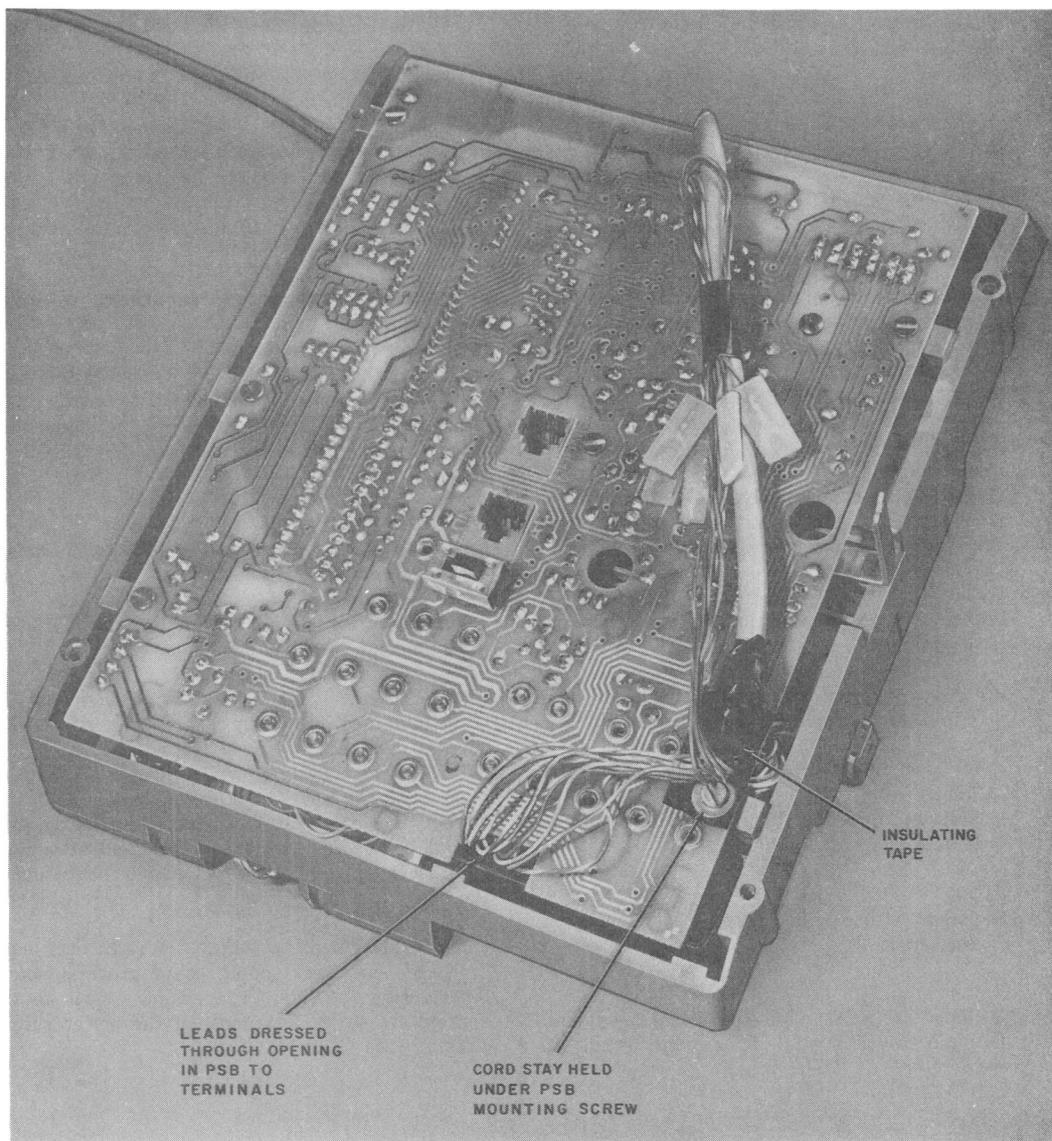

Fig. 14—Bottom of Set With Lower Housing Removed Showing an Adjunct Cord Dressed Across Power Supply Board (PSB)
**8.02** Strain relief for optional cordage may be obtained by using any of the six screws used to fasten the power supply board to the bottom of the chassis (Fig. 14). Proper precautions must be taken so that the stay band and hooks do not short any circuit paths. Insulating tape should be placed around the cord and stay band and also applied to the power supply board under the cord (Fig. 14).
**8.03** A rectangular cutout at the right front edge of the power supply board provides access for dressing individual spade-tipped leads to the appropriate screw terminals on the power supply circuit board (Fig. 14).